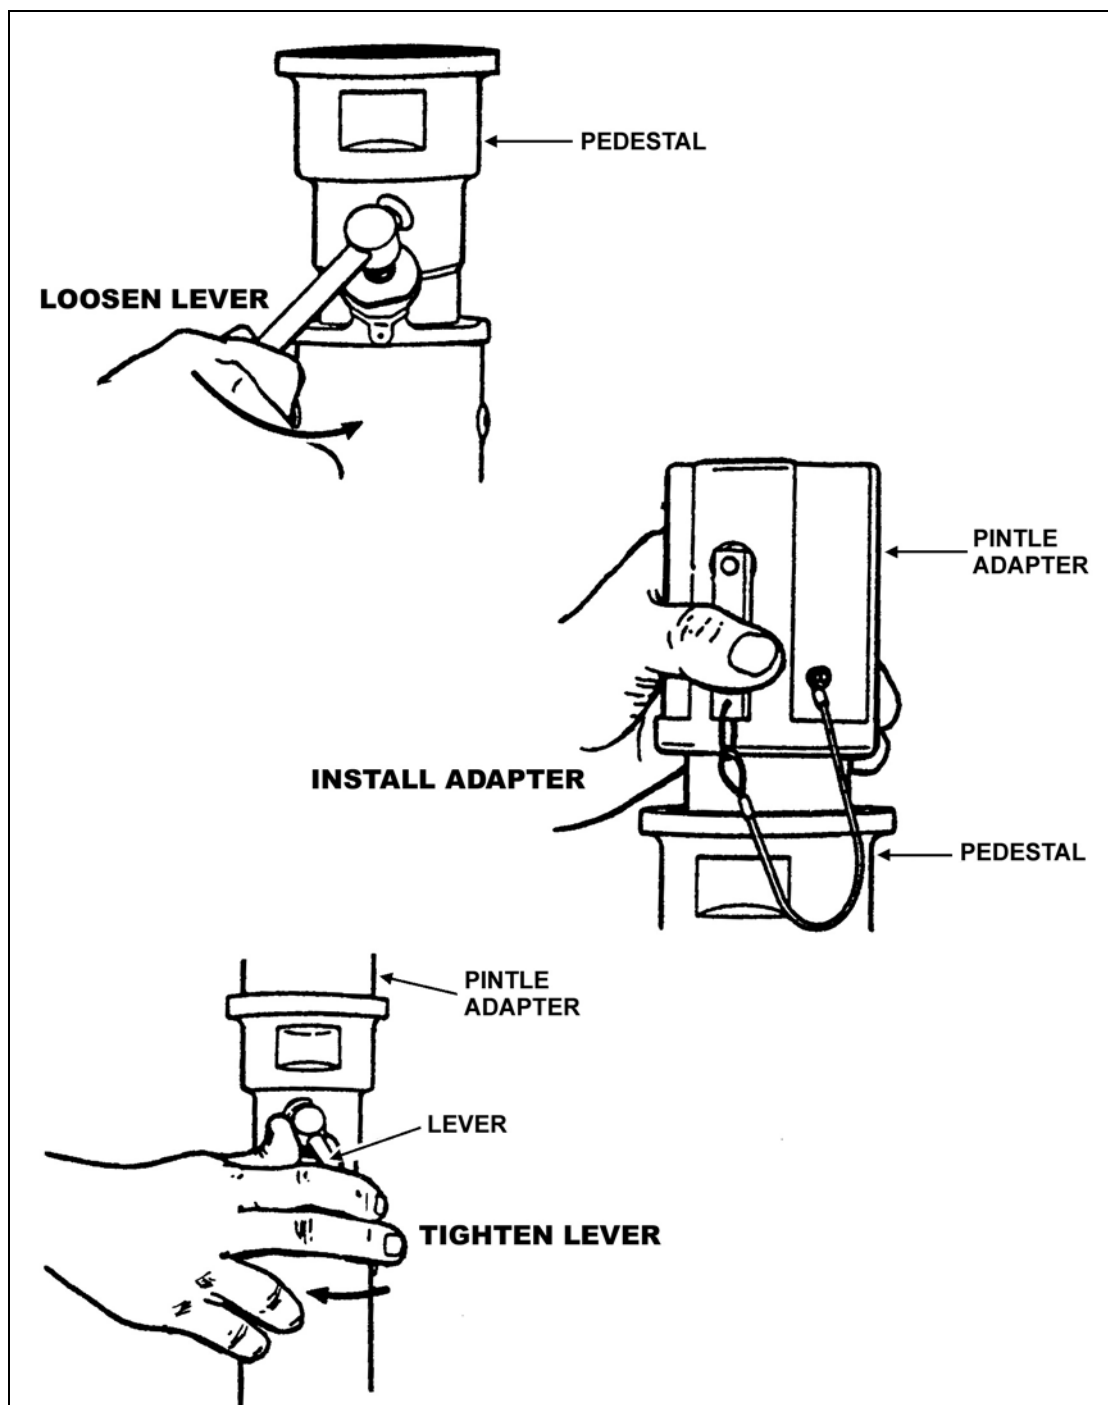

Figure 3-21. Pintle adapter assembly.
(2) Insert the pintle adapter assembly by placing the lower end of the pintle adapter into the HMMWV pedestal (Figure 3-21).